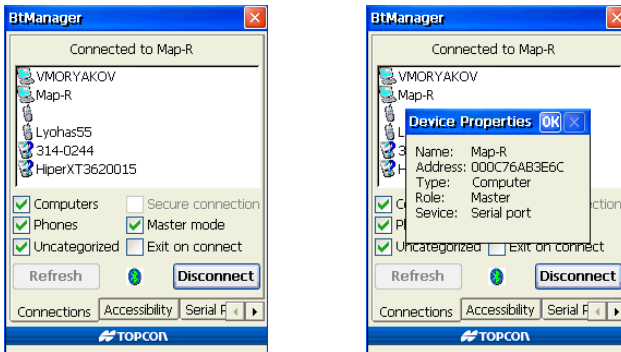

Figure 3-7. Connected to Device and Device Properties
Once a connection has been established, the Bluetooth Indicator turns green (Figure 3-7 on page 3-6).
- To view information on the connected device, double-tap the device (Figure 3-7 on page 3-6).